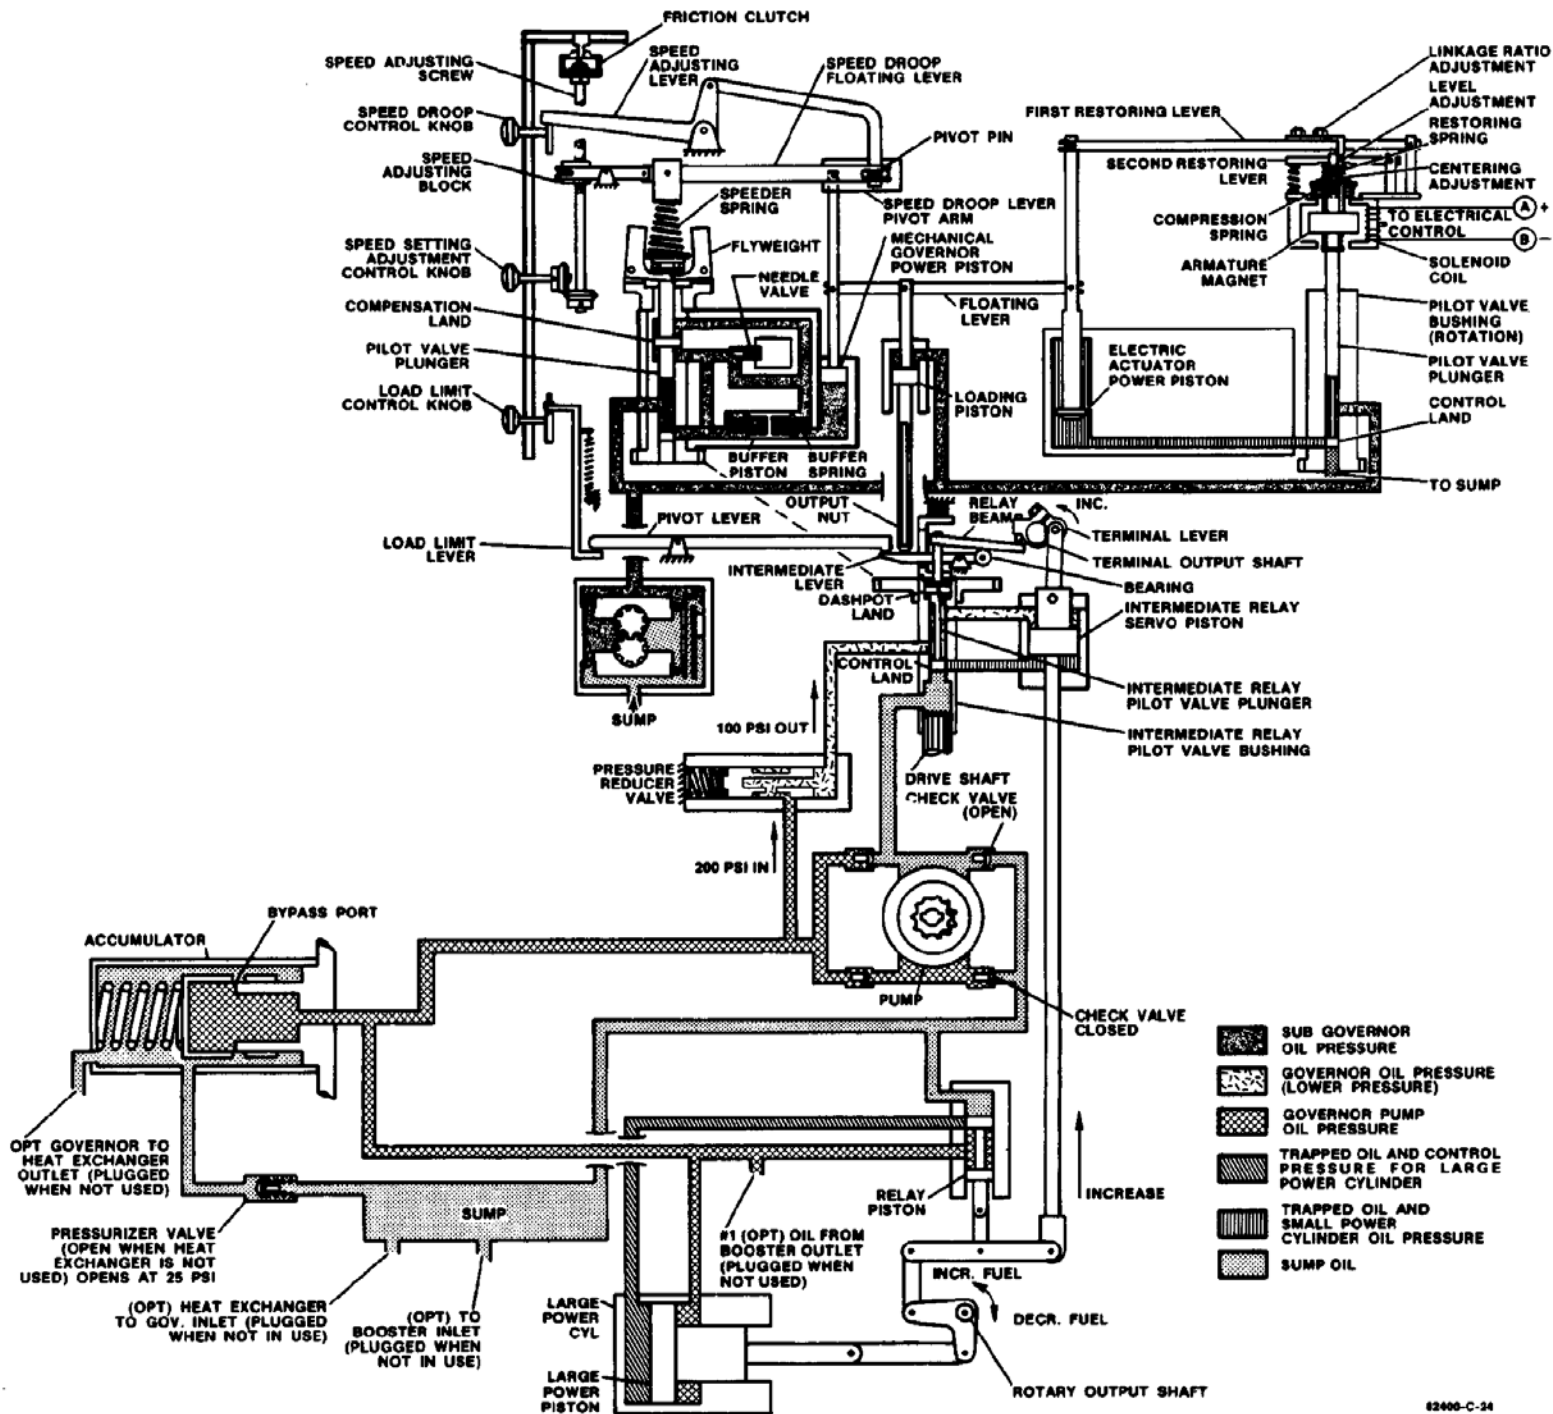

Figure 4-1. Schematic of the EGB-200 Proportional Governor/Actuator
The EGB-200P/-300P governor/actuator (see Figure 4-1) has two distinct controls in the actuating section: (1) an electric actuator and (2) a mechanical governor section. A hydraulic amplifier in the intermediate section amplifies the product of either of the control sections, and the EGB-200P/-300P then uses this amplified product to control the fuel rack of the engine or turbine.
The EGB-200P/-300P governor/actuator contains two separate hydraulic circuits. Each circuit utilizes the oil of a common sump. The accumulator oil pump (see Figure 4-1) provides pressure oil required by the amplifier section. The actuator drive shaft, driven at a speed proportionate to engine speed, rotates the pump drive gear and idler gear. Pressure oil forces the accumulator piston to the left, opposing the force of the accumulator spring. When the piston moves up sufficiently, it uncovers a bypass hole through which excess oil is returned to sump. The accumulator provides a reservoir of pressure oil and also a relief valve to limit maximum pressure in the hydraulic circuit.
During the normal mode of operation of the actuator, the electric actuator (see Figure 4-1) will be controlling and the mechanical governor power piston will be at the top of its stroke.
As the electric actuator power piston moves down, it lowers the left end of the first restoring lever. The clamping plate, attached to the first restoring lever, pushes down on the second restoring lever. (The restoring levers and spring are not identified in Figure 4-1 but are shown connecting the electric actuator power piston to the electrical solenoid at the upper right of the illustration). The loading on the restoring spring is thereby increased and lowers the pilot valve plunger. The loading piston and electric actuator servo piston move down until the increase in restoring spring force is sufficient to offset the increased force resulting from the decrease in the electric signal. When the pilot valve plunger is pushed back to its centered position, movement of the power piston, loading piston, and terminal shaft stop.
The mechanical governor (see Figure 4-1) controls the prime mover during starting and also functions as a backup governor prevent runaway should the electric control unit fail and call for maximum fuel or steam. The mechanical control must be able to increase the speed above the electrical control speed or the unit will call for maximum fuel in an attempt to increase the speed to the mechanical speed setting. The mechanical governor pilot valve plunger controls the flow of oil to its power piston. If the plunger is centered, no oil flows through the pilot valve, and the servo piston is stationary. The greater of two opposing forces moves the pilot valve plunger: The speeder spring force tends to push it down; the centrifugal force developed by the rotating flyweights is translated into an upward force which attempts to raise the plunger. With the pilot valve centered, there is only one speed at which the centrifugal force of the flyweights is equal and opposite to the speeder spring force.